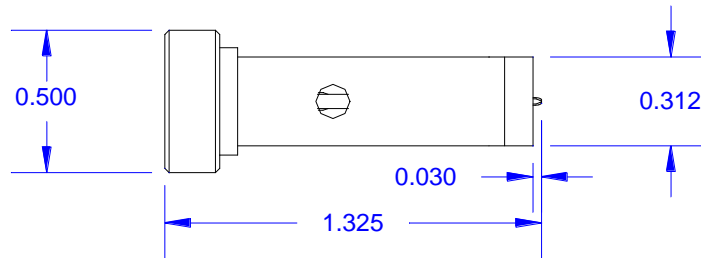

Figure 2 - Device Dimensions
- Physical dimensions are shown in Figure 2.